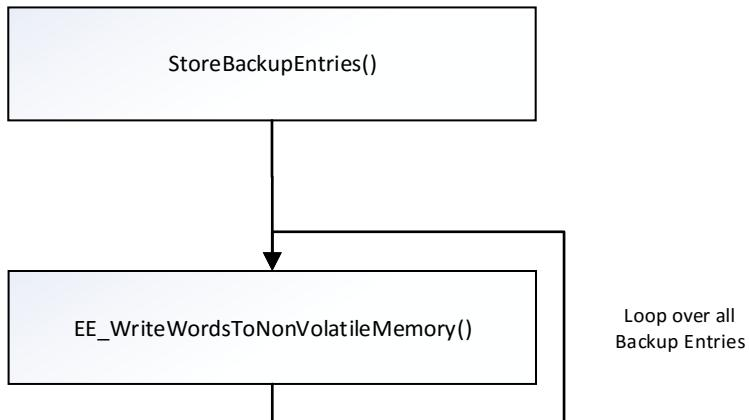

Figure 16: Store backup parameters
- 0x1010.1 Store backup value (if 0x65766173 is written the backup parameters are stored, see Figure 16).